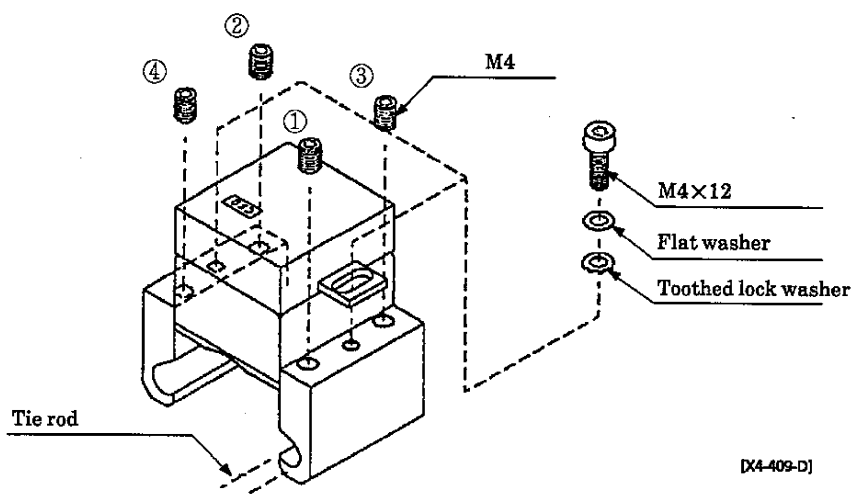

Fig 5. Switch installation procedure
Tighten these mounting screws (figure 5) in the following order;
Loosen all of the mounting screws and the hexagon-socket-head bolt on the switch mounting bracket and then after moving the switch to the designated mounting bracket position, tighten the center hexagon-socket-head bolt. Once this is done tighten the mounting screws (figure 5) in the following order; ①→②→③→④→①→②. The tightening torque is $1\text{N} \cdot \text{m}$ { $10\text{kgf} \cdot \text{cm}$ }.